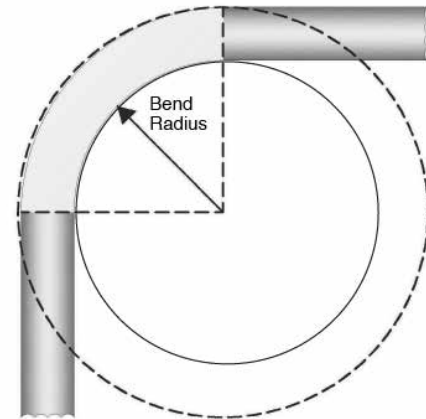

Fig. 4-1
- f) Avoid stressing the tubing or fittings with tight bends, kinks, twists, stretching or repetitive bending. Refer to Table 4-1 below for the recommended minimum bend radius for Gastite/FlashShield+ CSST (Fig. 4-1).